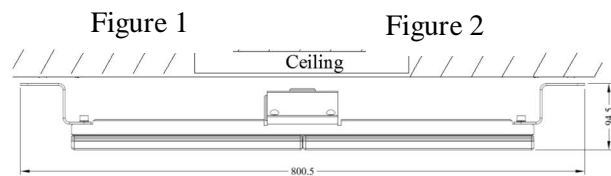

Figure 3
- ☞ The mounting bracket is for surface mounting to ceiling (Figure 3).